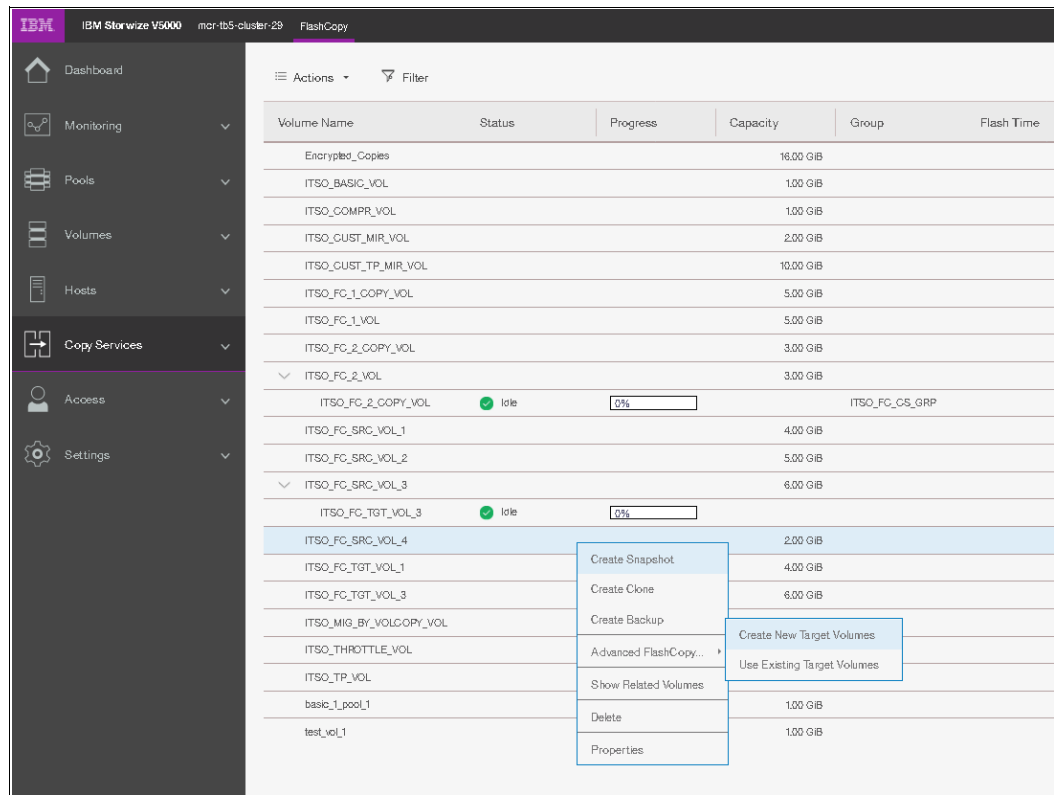

Figure 10-23 Selecting Create New Target Volumes
1. If you did not create a target volume for this source volume, then select the source volume via left-click, then click **Actions** → **Advanced FlashCopy** → **Create New Target Volumes**, as shown in Figure 10-23 on page 488.